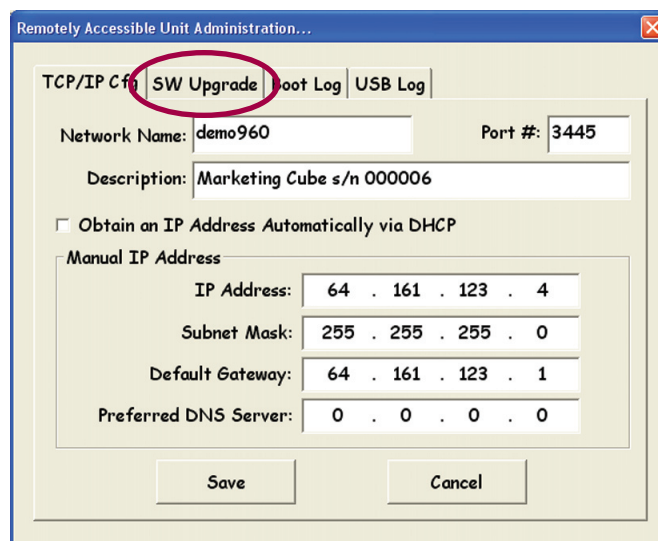
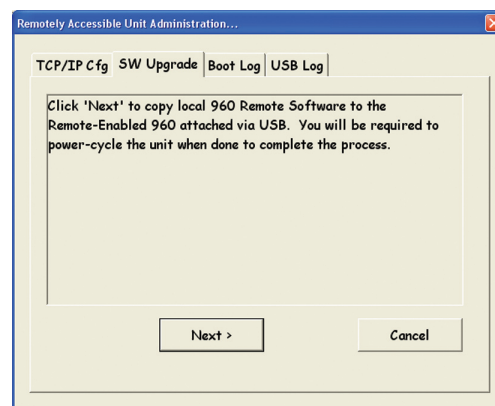

Figure 6.2.3 Configure TCP/IP Window
Figure 6.2.4 Software Upgrade
E. Click on the Tools Menu at the top of the 960 Home window. Then select Configure TCP/IP unit via USB. This will bring up the Remote Control TCP/IP Configuration Dialog box shown in Figure 6.2.3.
F. Click on the SW Upgrade tab circled in Figure 6.2.3. You will see a short instructional paragraph, as shown in Figure 6.2.4